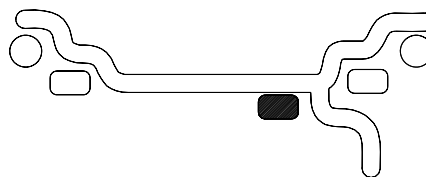

Figure 15
B. STATIC (single plane - Fig.15). Suggested for narrow rims (3" or less). Use a single corrective weight placed in the center of rim as illustrated in Figure 15.